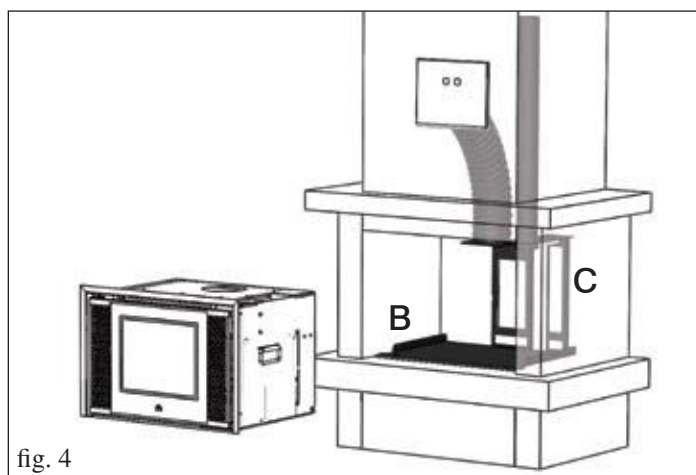

fig. 4
- Install the base plate (**B**) of the kit in the position where INPELLET 49 will be placed (fig. 4). Secure the plate (**B**) with the bolts provided.